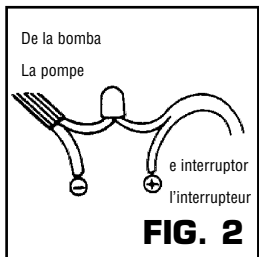

FIG. 2
2. Connect the brown wire to the positive (+) lead and switch, and connect the black wire to the negative (-) lead. We suggest a 3A fuse - see Fig. 2.